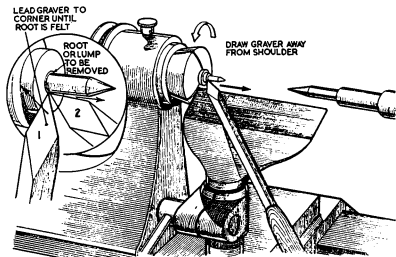

FIG. 80.—METHOD OF SQUARING A SHOULDER (1) AND CLEARING A ROOT (2)
Under no circumstances push the point of the graver into the shoulder in an endeavour to clear the root, as the point will immediately break off and the root will be burnished and worse than before. (See Fig. 80 (2).)
It may be found that after clearing the root the shoulder itself is either undercut or back-sloped. The way to square up the shoulder is similar to clearing a root (see Fig. 80 (1)).